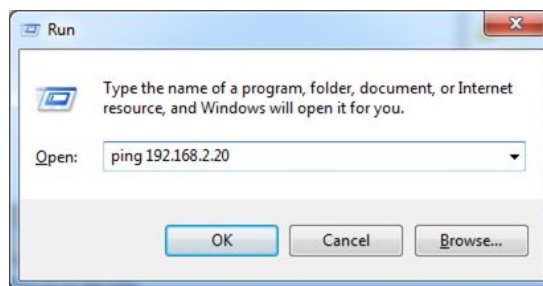
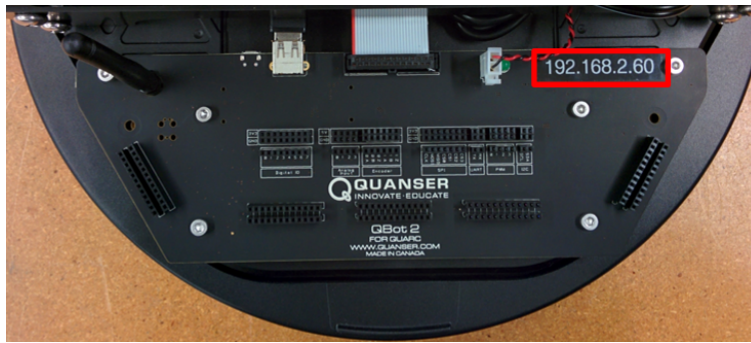

Figure 3.4: Pinging the QBot 2
Figure 3.5: QBot 2 IP address label
9. Make sure you can ping the router by typing `ping 192.168.2.1` in the Run box in Windows (go to the *Start* menu and search for Run and click Run, Figure 3.4). If the connection to the router is successful you will see the ping replies in the command window. If you cannot ping the router, check network connectivity and your IP address before going to the next steps.
10. If the QBot 2 is powered on, the QBot 2 can be pinged by typing `ping {IP of the QBot 2}` in the Run box in Windows (go to the *Start* menu and click Run, Figure 3.4). The QBot 2 IP address is labeled on the DAQ PCB as shown in Figure 3.5. If the connection is successful you will see the ping replies in the command window. If you cannot ping the robot, power cycle the QBot 2 and wait for about 60 seconds to reboot.